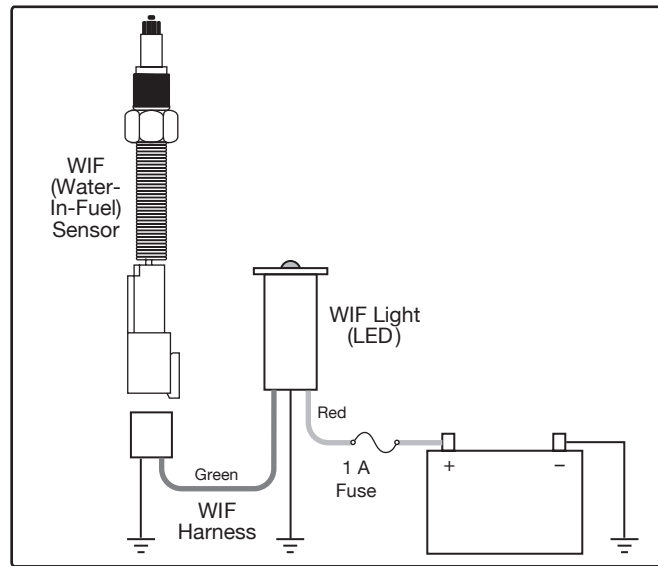

Figure 3 - WIF Wiring
6. Locate 12 VDC or 24 VDC power source. Run red wire from power source to 4" (101.60 mm) red wire on WIF LED. Add a 1 A in-line fuse (not included). (See Figure 3.)